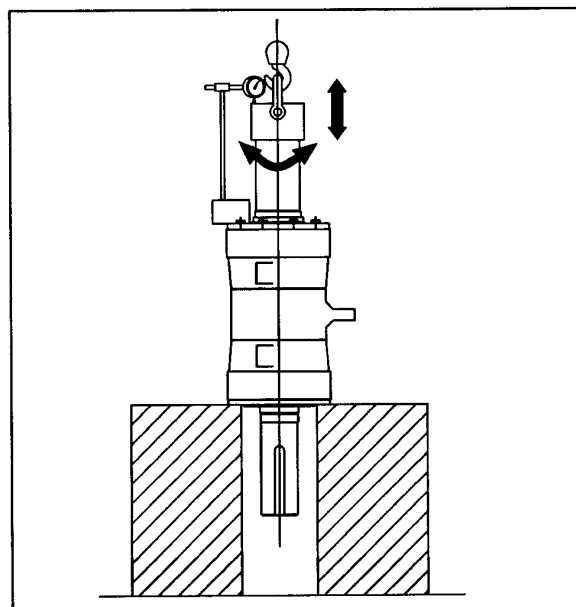

Figure 2-7 • Checking End Play
1. Due to size and weight, it is best to place the bearing assembly in a vertical position as shown in *Figure 2-7*, impeller end up. Support the assembly at the lower end cover with shaft free. The whole assembly must be located in a position where it can be reached by a hoist.
2. Hold the shaft tightly and screw on the SHAFT LIFTING NUT (311).